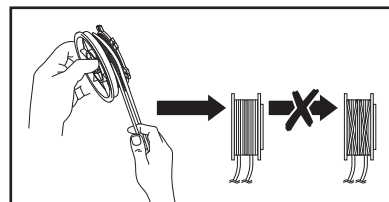

Fig. 30
6. Wind all the trimming lines firmly around the trimming spool in direction of the arrows on the trimming spool (16c) (Fig. 30).